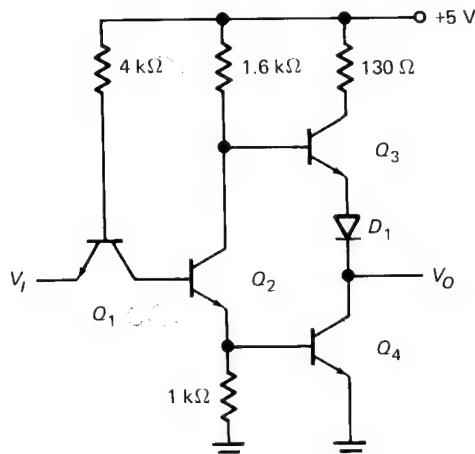

Fig. 4-21
- 4-1.** In Fig. 4-21 a grounded input means that almost the entire supply voltage appears across the 4-k Ω resistor. Allowing 0.7 V for the emitter-base voltage of Q₁, how much input emitter current is there with a grounded input? The supply voltage can be as high as 5.25 V and the 4-k Ω resistance can be as low as 3.28 k Ω . What is the input emitter current in this case?